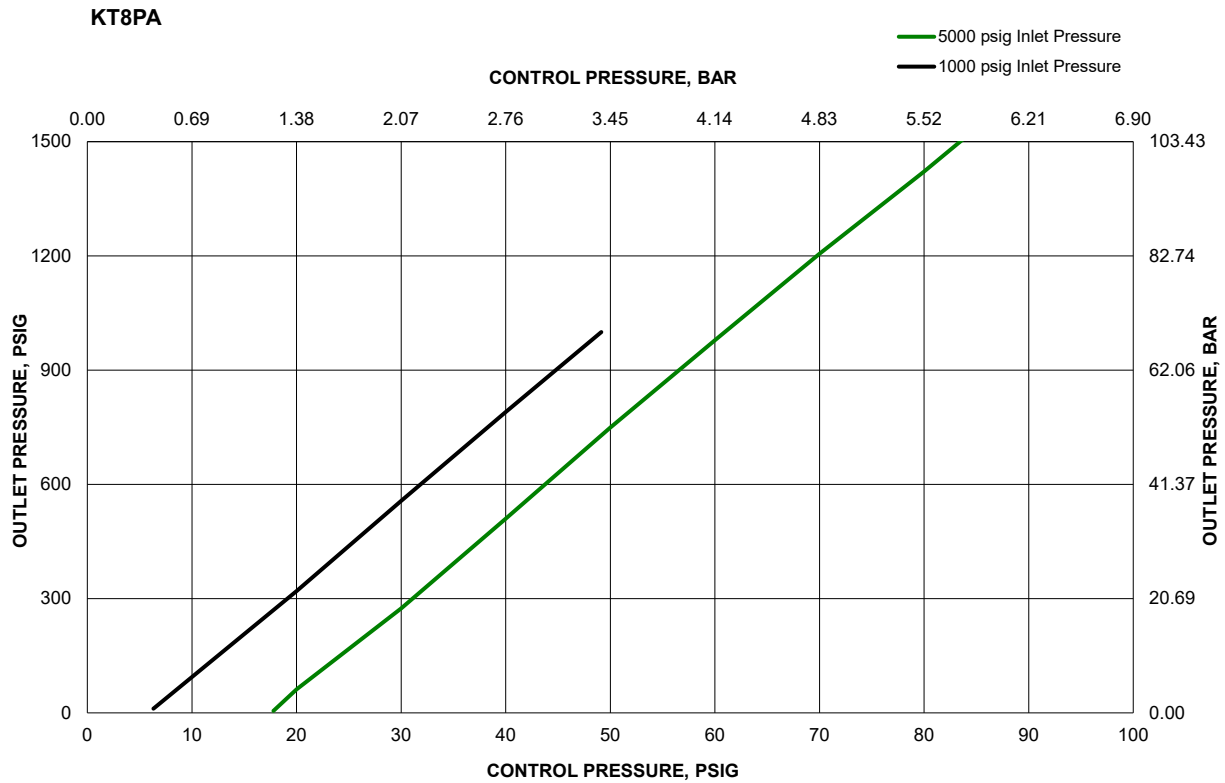

Figure 1. Pneumatically actuated KT8 delivery pressure vs. actuation control pressure.
- c. Slowly increase the actuation control pressure to increase the delivery pressure to the desired set point. See Figure 1 for delivery pressure versus actuation control pressure chart for the pneumatically actuated KT8 models.